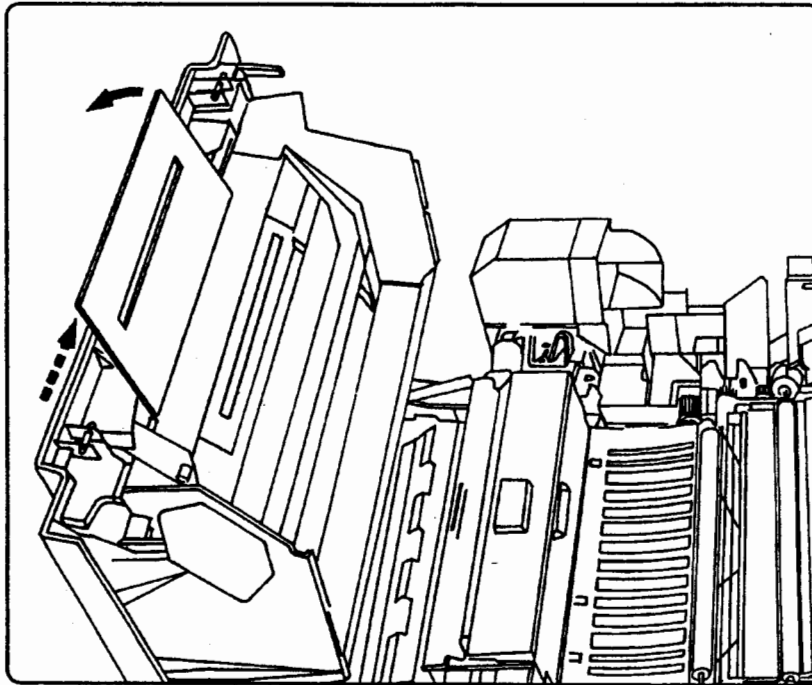

Figure 4-7. Cleaning the Beam-to-Drum Mirror
1. Access the Beam-to-Drum Mirror, located under the Top Cover Assembly, by moving the Mirror Shutter Assembly to the right (freeing the lever) and swinging it up and out of the way (see Figure 4-7, also "Mirror Shutter Assembly" in Chapter 6).